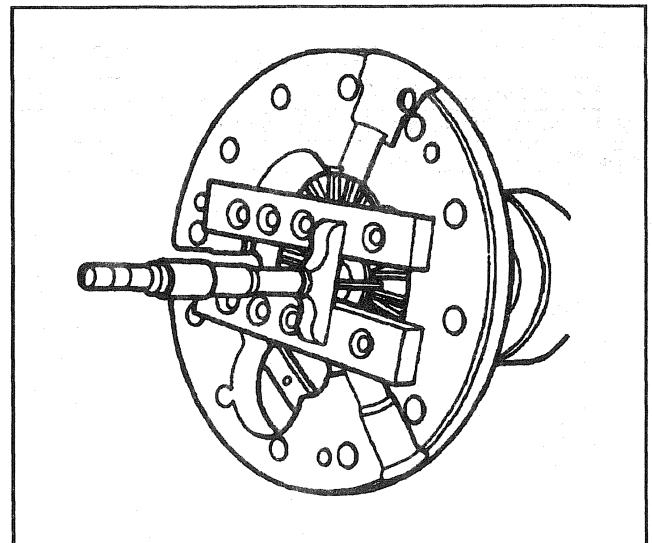

Figure 16—Side Gear Spread
Install or Connect (Figures 16 and 17)
- The distance from the side gear face to the case half face (Figure 16).